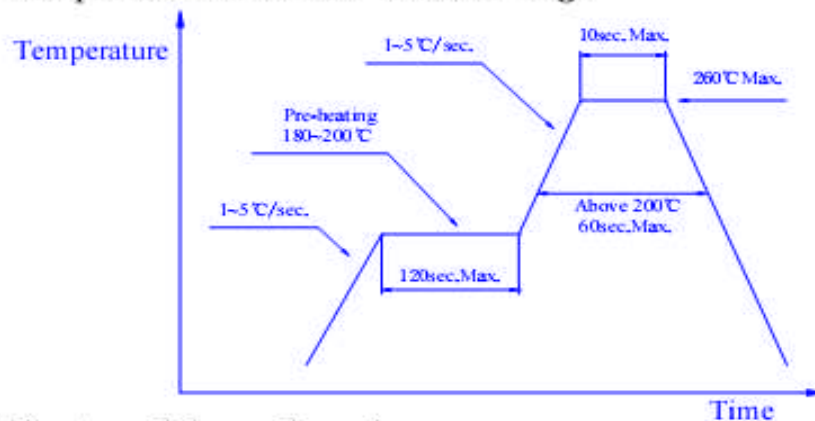

Fig.3
② Reflow soldering:
a. The temperature profile as shown in Fig.3 is